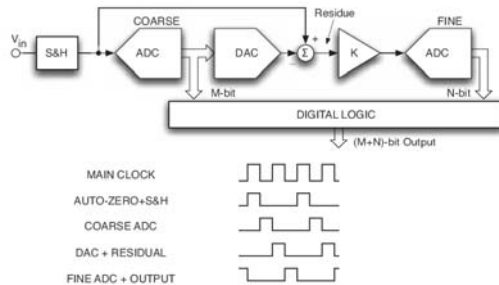

Figure 4.10. Block diagram of sub-ranging ($K=1$) and two-step architectures ($K>1$).
- Fig. 4.10 shows the timing diagram.